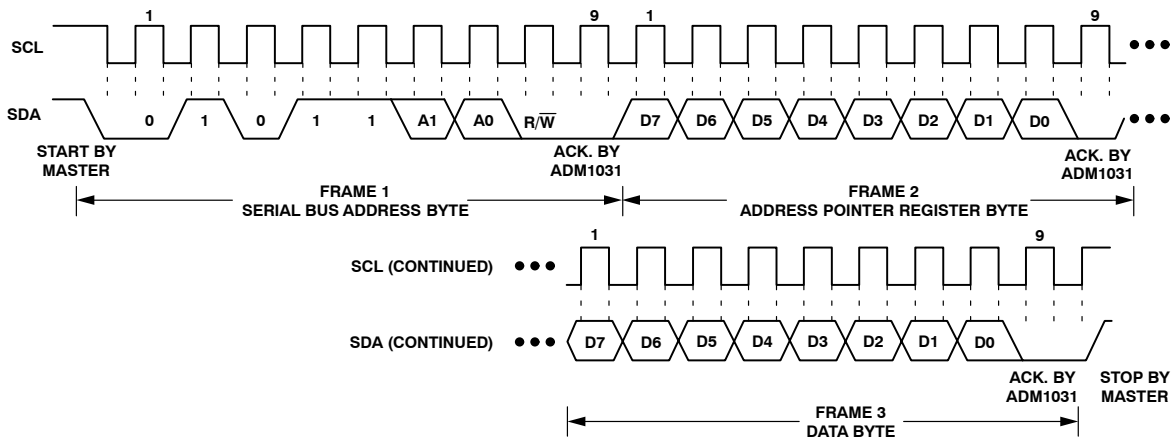
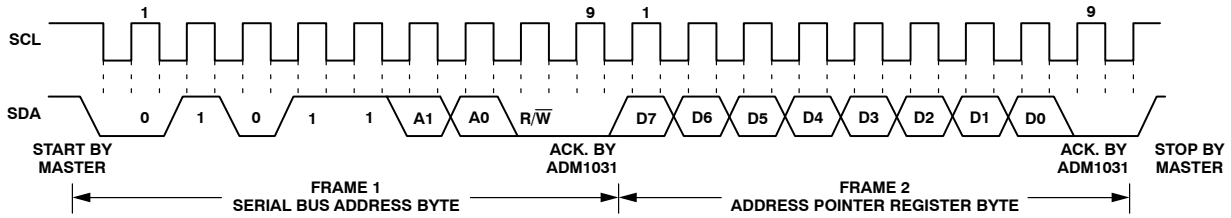
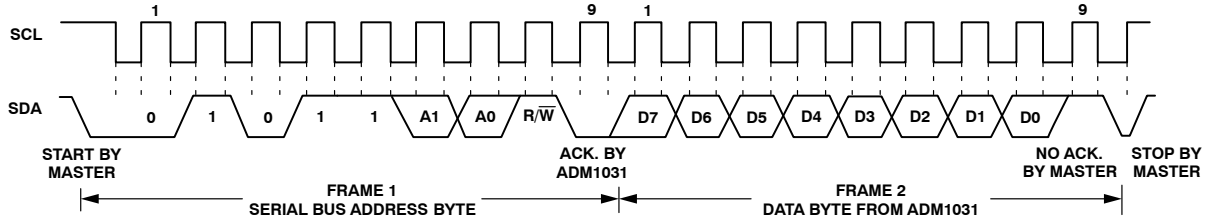

Figure 15. Writing a Register Address to the Address Pointer Register, then Writing Data to the Selected Register
Figure 16. Writing to the Address Pointer Register Only
Figure 17. Reading Data from a Previously Selected Register
This is illustrated in Figure 15. The device address is sent over the bus followed by R/W set to 0. This is followed by
- If the ADM1031’s address pointer register value is unknown or not the desired value, it is first necessary to set it to the correct value before data can be read from the desired data register. This is done by performing a write to the ADM1031 as before, but only the data byte containing the register address is sent, as data is not to be written to the register. This is shown in Figure 16. A read operation is then performed consisting of the serial bus address, R/W bit set to 1, followed by the data byte read from the data register. This is shown in Figure 17.
- If the address pointer register is known to be already at the desired address, data can be read from the corresponding data register without first writing to the address pointer register, so Figure 16 can be omitted.
- In Figure 15, Figure 16, and Figure 17, the serial bus address is shown as the default value 01011(A1)(A0), where A1 and A0 are set by the three-state ADD pin.